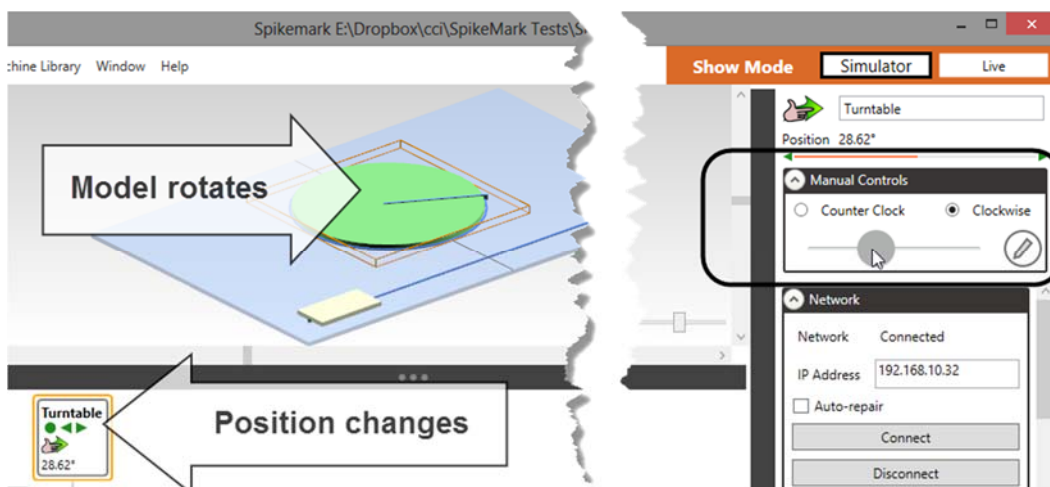

Figure 42
- Click and drag the **Speed Slider** in the **Manual Controls** section of the **Stagehand Editor** (Figure 42). You will see the *Turntable* start moving in the **Stage Model Viewer** and the **Position** numbers start to increase in both the **Stagehand Editor** and the **Cue Grid**.